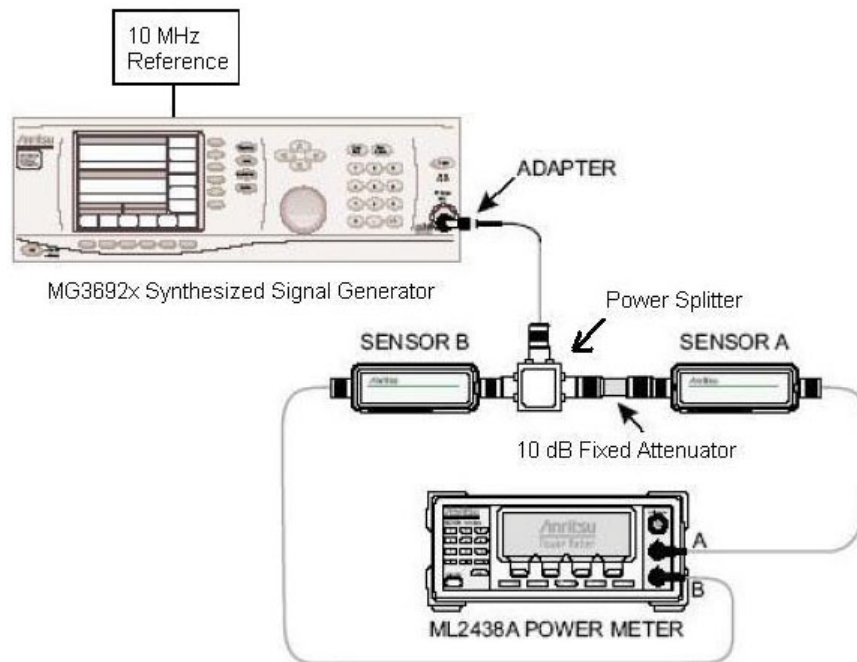

Figure 4-1. Power Meter Measurement Accuracy
2. Connect the model 1870A power splitter to the MG3692A/B output and sensor B to one of the power splitter outputs (Refer to Figure 4-1).